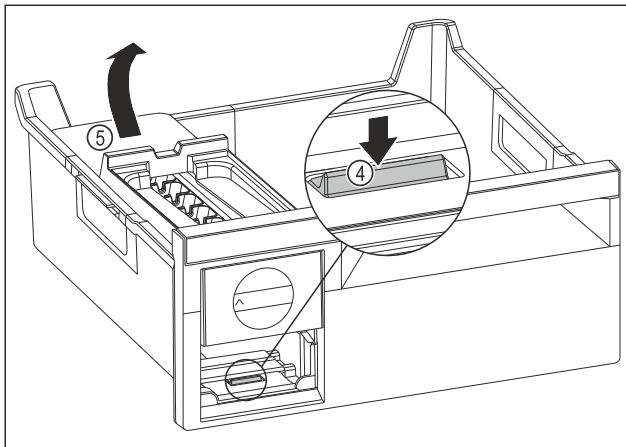

Fig. 74
- ▶ Removing the EasyTwist-Ice body: Use your finger to push the tab Fig. 74 (4) down and use your other hand to lift the EasyTwist-Ice body Fig. 74 (5) from behind at the same time.